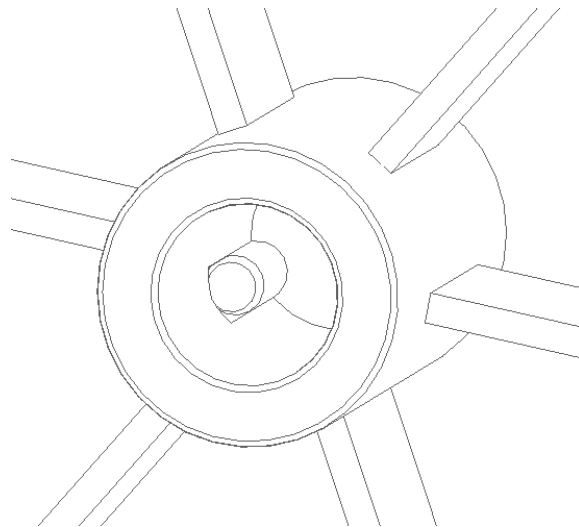

Figure 8 View of the location of the basket's shear point
The basis and guarantee of reliable operation of the equipment and the washer is the use of appropriate agents and consumables, as well as careful installation and connection of the electrical system. During the warranty period, with the prior consent of the manufacturer, minor repairs carried out by the user are permitted, e.g. replacement of the flexible breakaway drive element of the basket (*Fig. 8*), replacement of the wash hose or chamber seal.
- inspection of the condition of the breakaway element of the basket drive base and mating surfaces (*Fig. 8*)